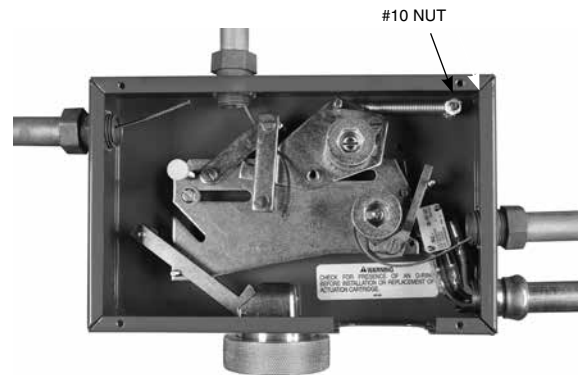
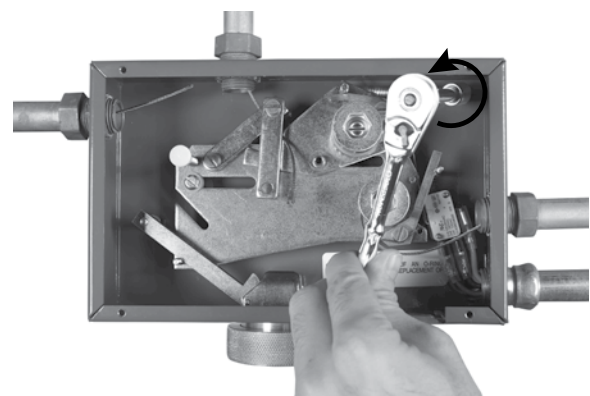

FIGURE 16
FIGURE 17
11. Using a socket wrench or nut driver, remove the #10 nut in the upper right corner of the mechanical control head. See Figure 16 and Figure 17.